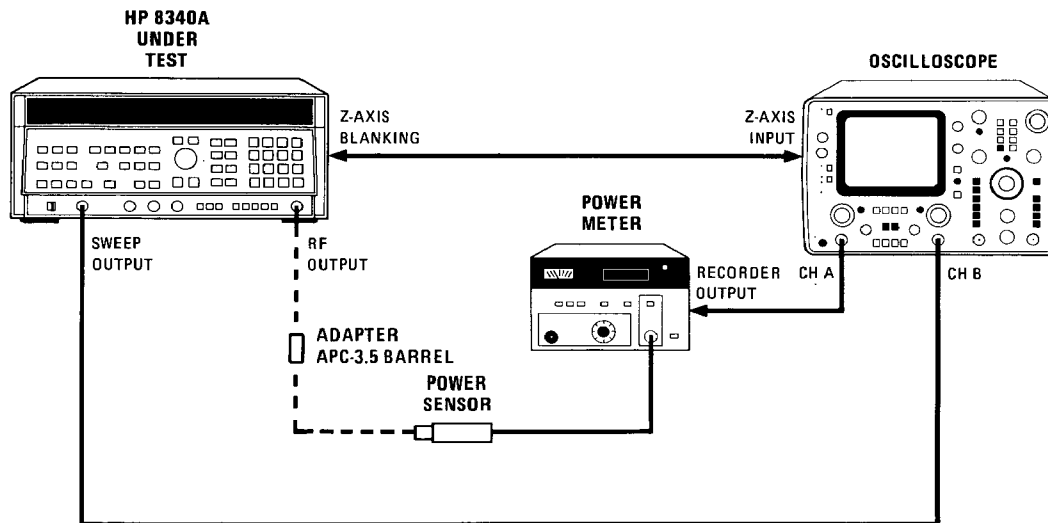

Figure 5-58. Flatness Verification Test Setup
1. Connect the equipment as shown in Figure 5-58. Connect the HP 8485A Power Sensor to the power meter. Allow at least 30 minutes warm up time. Set the power meter calibration factor switch for 2.4 GHz, then zero and calibrate the power meter before connecting the power sensor to the 8340A Under Test.